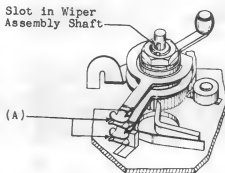

Fig. 5—Wiper Assembly
- 2.06 Wiper Spring Tip Separation:** Fig. 5(A)—There shall be a separation between the tips of each pair of wiper springs with the wiper springs off the bank of